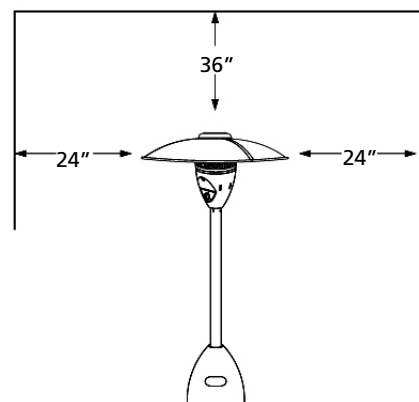

Figure 13 – Space Tolerances
- If relighting a hot heater, wait at least 5 minutes. See Figure 13 for space tolerances.